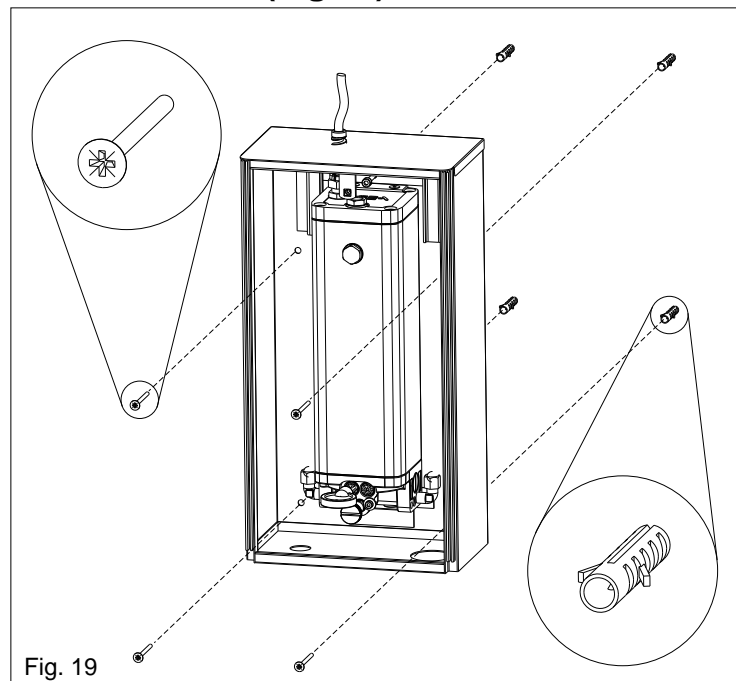

Fig. 19
5. HYDRAULIC UNIT BOX WALL INSTALLATION (Fig.19)